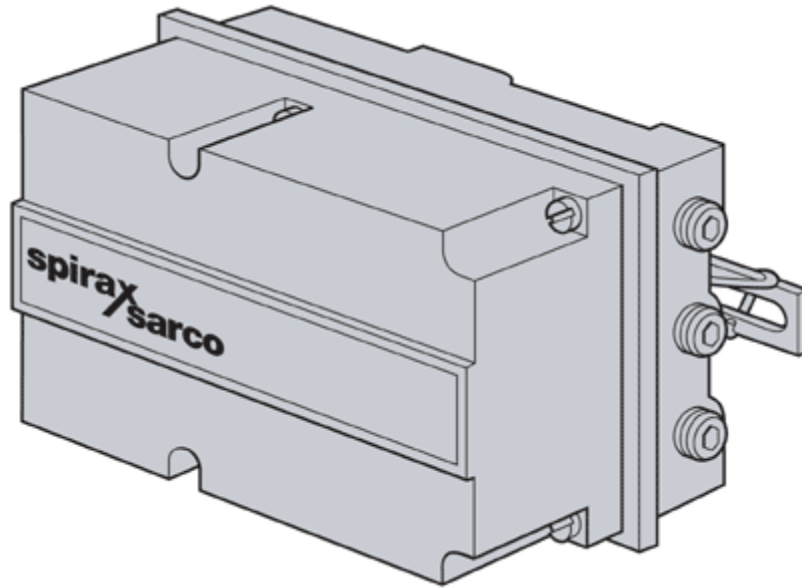

Fig. 6.6.13 Typical P to P Positioner (gauges omitted for clarity)
To ensure that the full valve differential pressure can be accepted, it is important to adjust the positioner zero setting so that no air pressure opposes the spring force when the valve is seating. Figure 6.6.13 shows a typical positioner. Commonly, this would be known as a P to P positioner since it takes a pneumatic signal (P) from the control system and provides a resultant pneumatic output signal (P) to move the actuator.